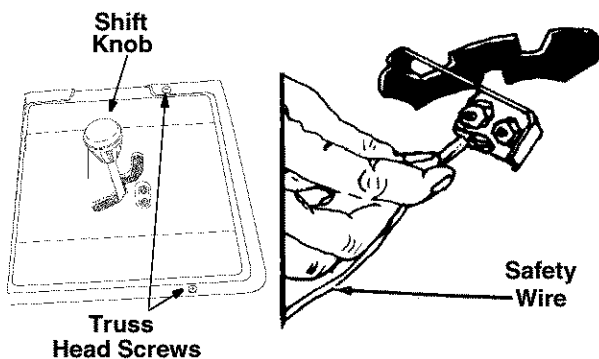

Figure 25
- Place shift lever in neutral position. Unscrew the shift knob and the speed control knob (if located on the console). Remove the two truss head screws which secure the transmission cover. See Figure 25.
- Lift the transmission cover. Unplug the safety wire from beneath the transmission cover. See Figure 25. Remove transmission cover.